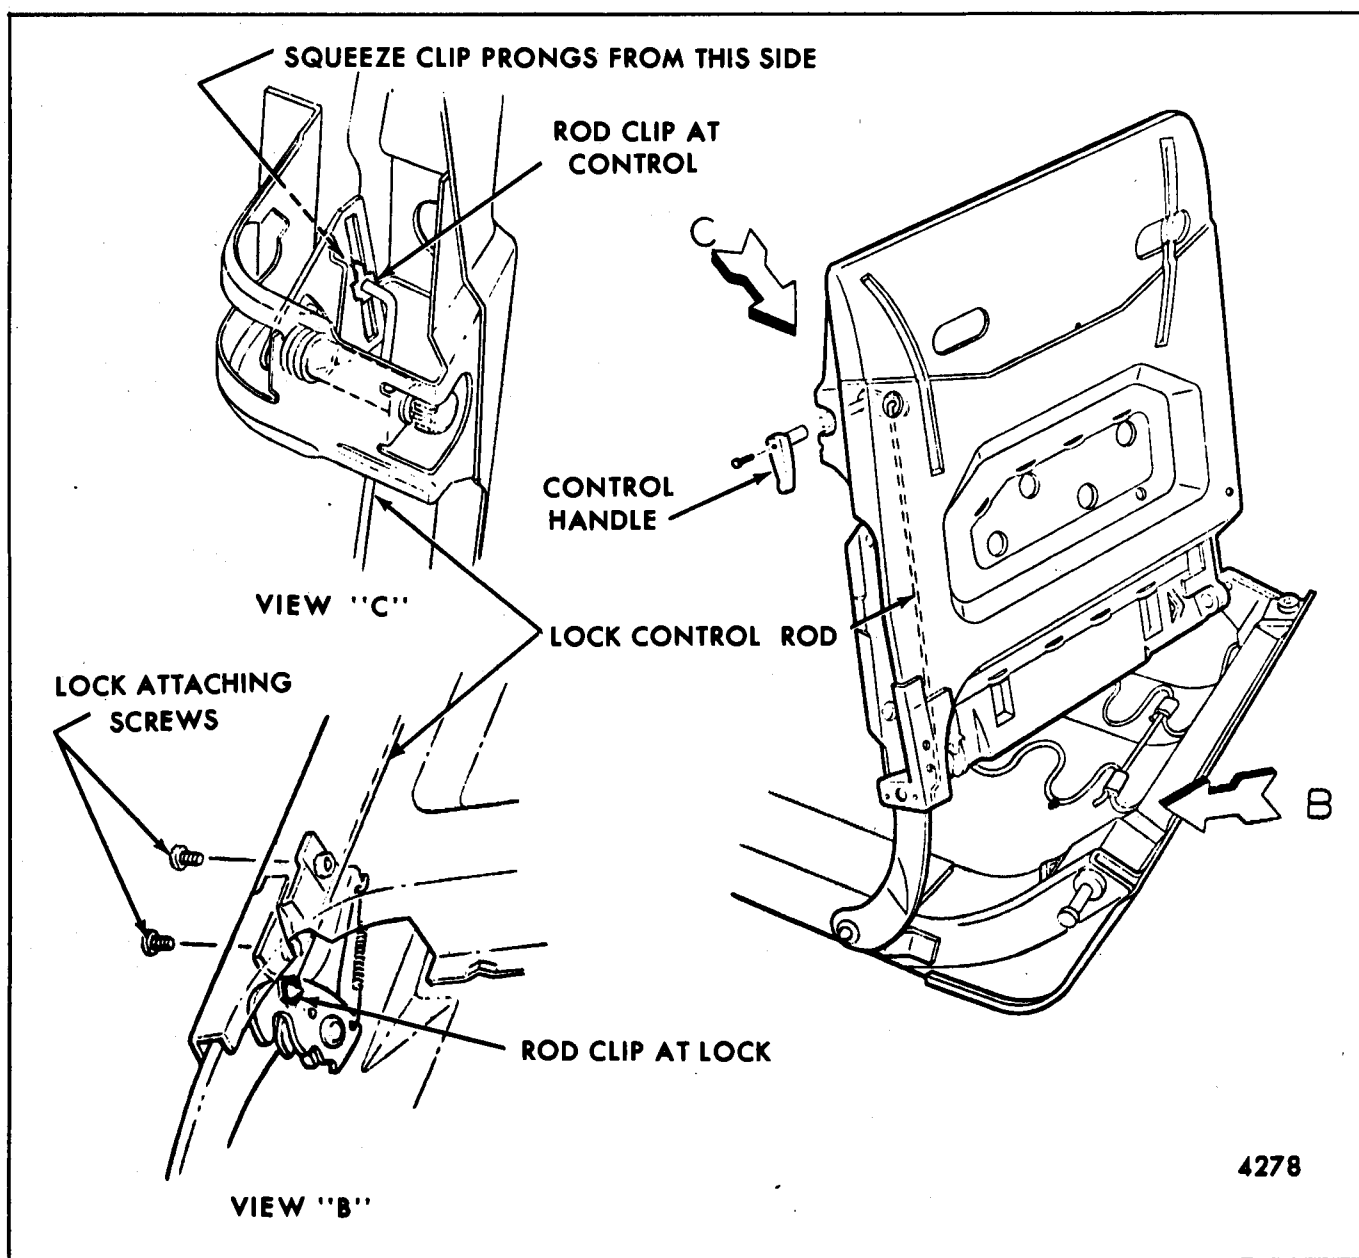
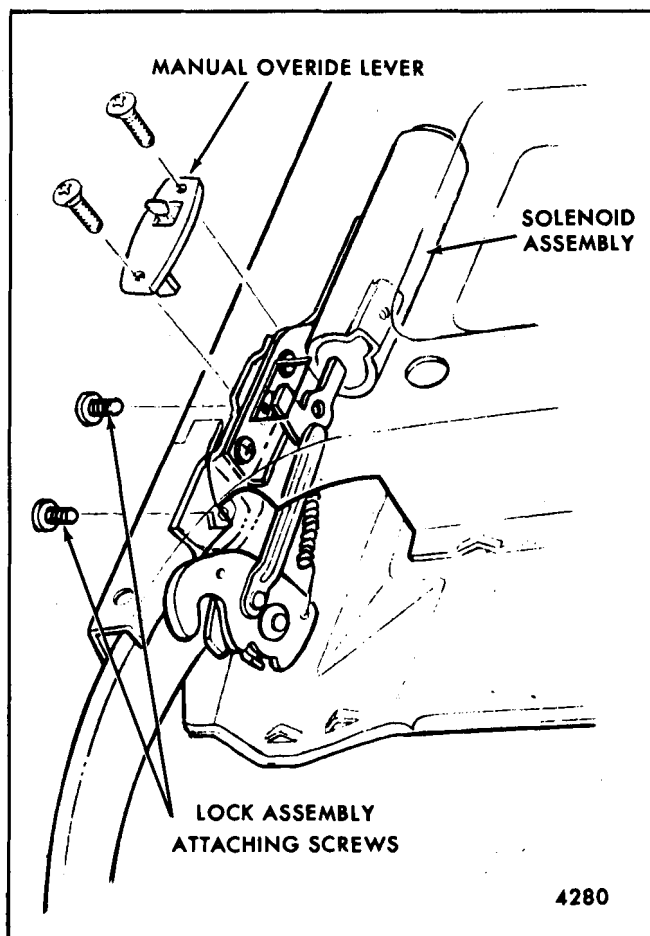

Fig. 14-29-Front Seat Back Manually Operated
Fig. 14-30-Front Seat Back Electrically Operated Lock - "A, B and C" Two-Door Styles, Standard Full Width Seat
5. Remove hog rings securing seat back front and rear trim facings and foam pad facing along bottom of seat back; then, turn up trim and carefully pull out foam pad sufficiently to gain access to lock attaching bolts (Fig. 14-29 or 14-30).
6. On manually operated seat back lock, disengage lock connecting rod clip (Fig. 14-29) and detach rod from lock. On electrically operated seat back lock, disconnect feed connector from lock solenoid.
7. Remove seat back lock attaching bolts (Fig. 14-29 for manual lock, Fig. 14-30 for electric lock); then, remove lock assembly from seat back.
4. To remove seat back lock rod from lock control carefully squeeze prongs of clip (Fig. 14-29, View
"C") sufficiently to disengage clip and detach rod from lock. Remove lock attaching bolts and rod from control (Fig. 14-29).